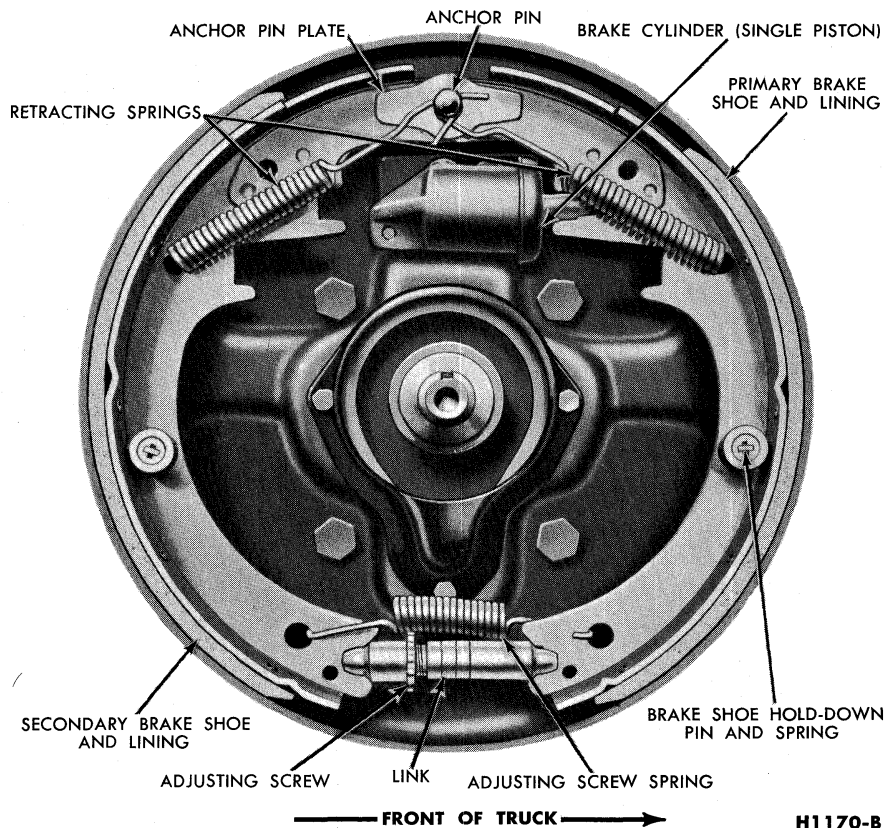

FIG. 12—Single Anchor Brake Assembly
3. Remove the anchor pin plate (Fig. 12).